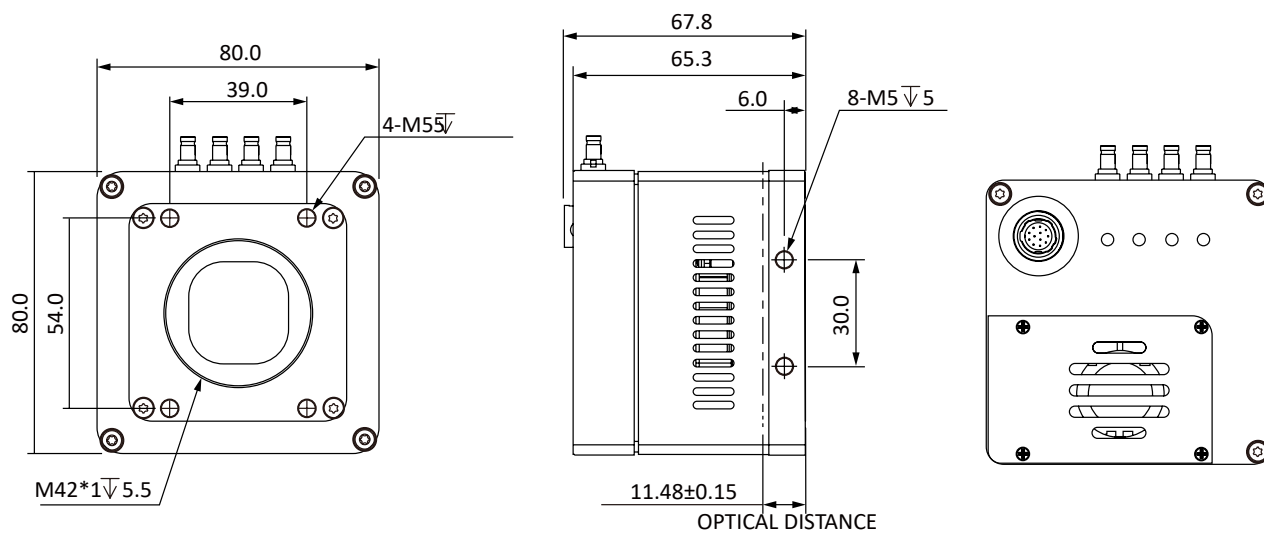

Fig. 1-5: Mechanical Dimensions (in mm) for Cameras with 80 \* 80 \* 65.3mm housing (M42 interface).
- Fig. 1-5: Mechanical Dimensions (in mm) for Cameras with  $80 \times 80 \times 65.3$ mm housing (M42 interface).